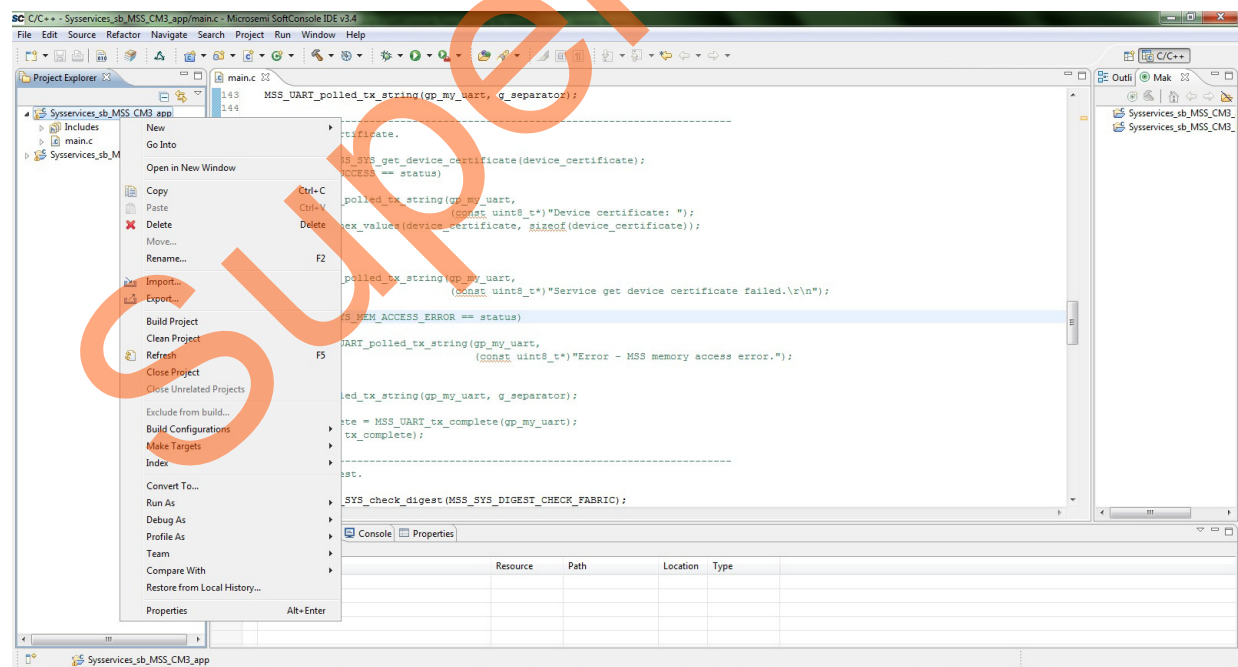

Figure 31 • Project Explorer Window - SoftConsole Project
9. Right-click **Syservices_sb_MSS_CM3** in the **Project Explorer** window of the SoftConsole project and select **Properties** as shown in Figure 31.